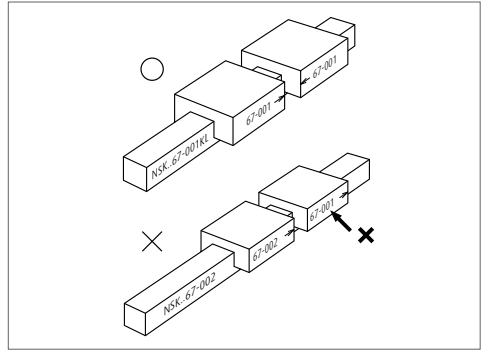

Fig. 28
- › In case that the slides had to be removed from the rail, confirm their serial numbers and the directions of arrows for re-assembly (**Fig. 28**).